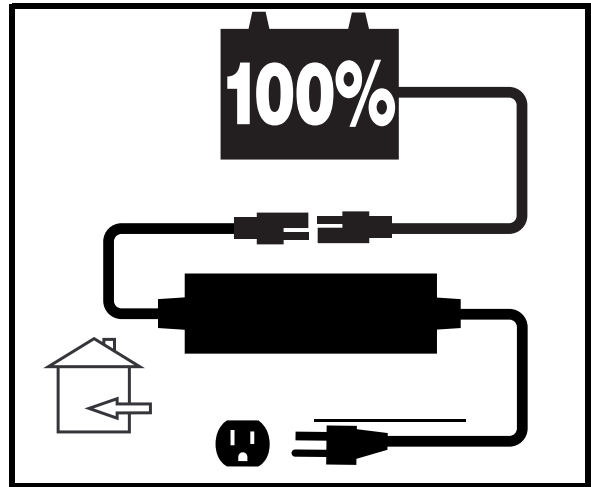

Figure 20. Battery Charging
2. Plug the charger cord into the mating socket located on the bottom of the battery case, then connect the charger cord to a standard electrical outlet. See figure 20.